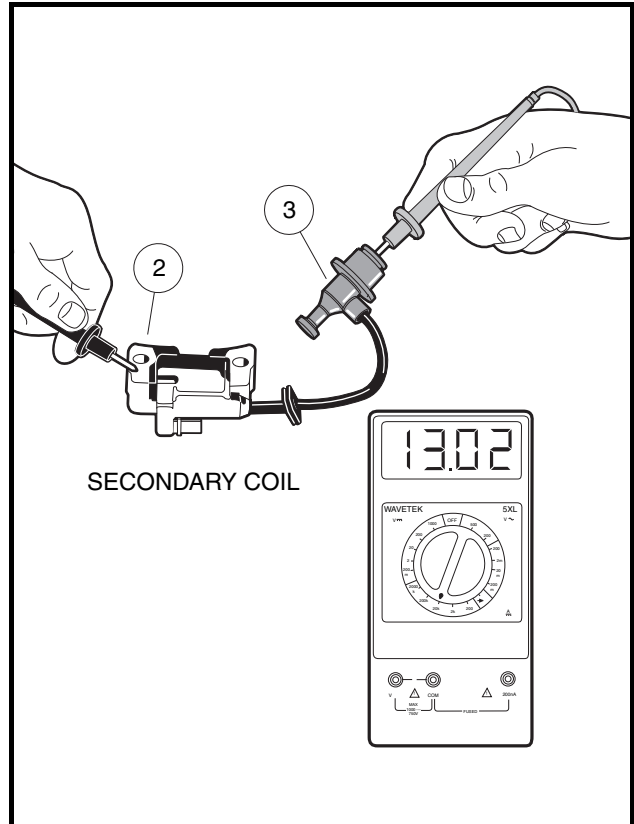

Figure 11-33 Secondary Coil and Cap Resistance – Bench Test
- 3.1. Place the red (+) probe of the meter into the end of the spark plug cap that normally connects to the spark plug (3) and place the black (–) probe on the core (2) (**Figure 11-33, Page 11-29**).